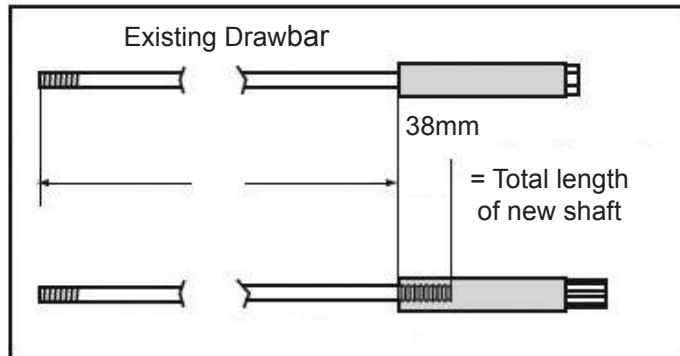

Figure 5. Calculating the length of the new shaft.
2. Measure the length of your mill's existing drawbar from the bottom of the bolt head to the end of the drawbar shaft, then add 38mm (see Figure 5).